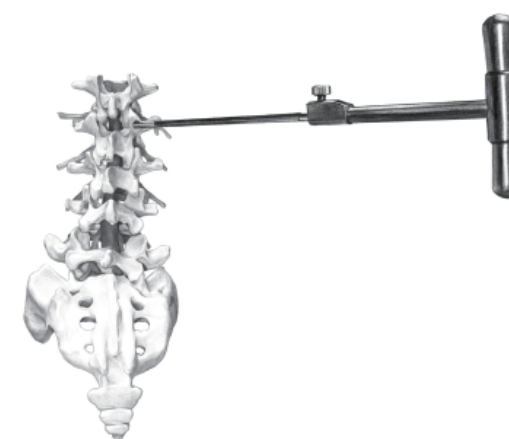

Fig.2a
- Use a triangular socket wrench to implant the SCHANZ Pedicle Screw I into the nail path to a depth of 2/3 of the vertebral body (Fig.2a).